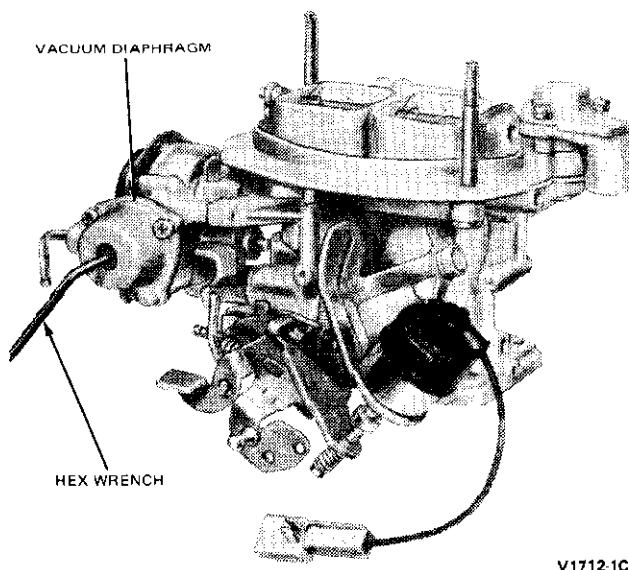

FIG. 10 Adjusting Choke Plate Pulldown
5. Remove the slack from the choke linkage by attaching a rubber band to the choke operating lever as shown in Fig. 10.
6. To adjust the choke plate-to-air horn clearance, turn the vacuum diaphragm adjusting screw in or out as required (Fig. 10).